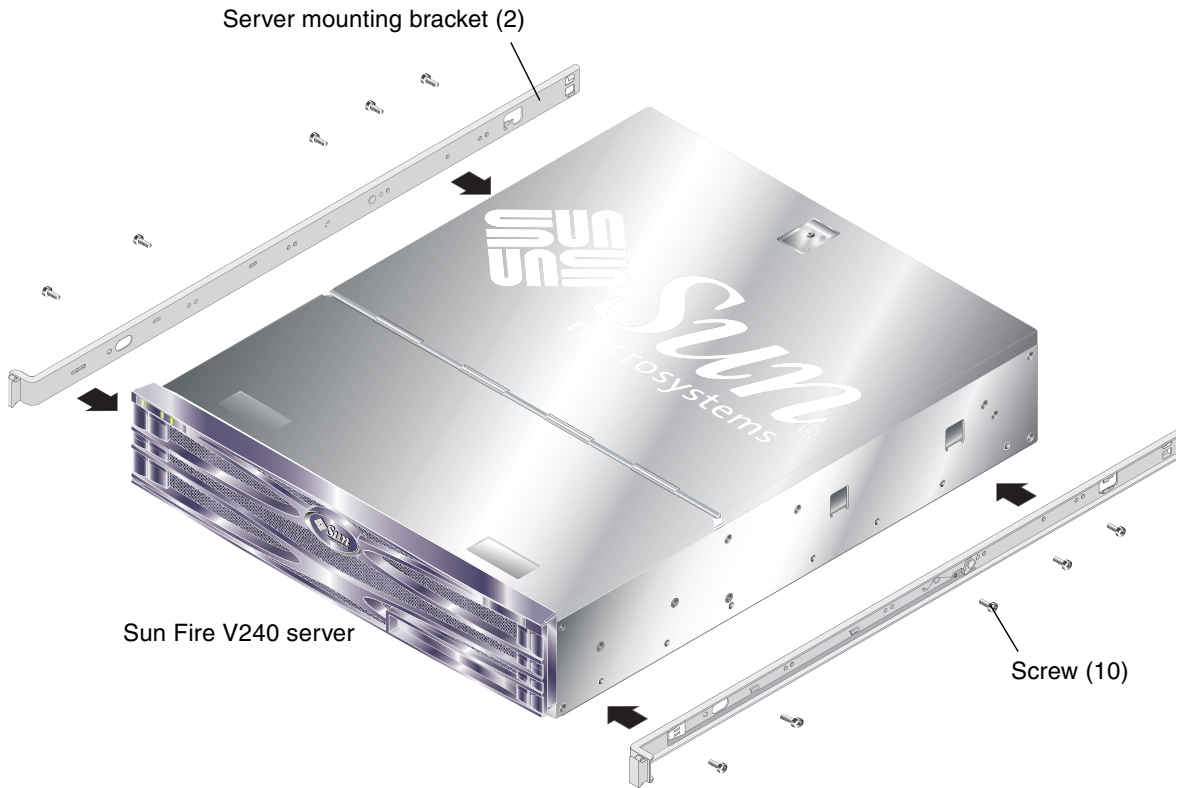

FIGURE 10 Installation of the Server Mounting Brackets
1. Attach the server mounting brackets to the server using the screws from the rackmount screw kit (FIGURE 10).